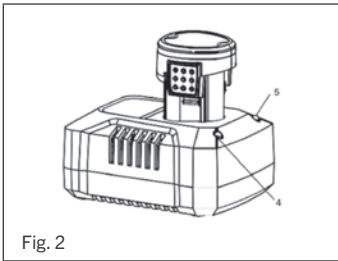

Fig. 2
When the battery charger is plugged into a “live” receptacle, the battery charger will begin charging the battery. The red LED (4) and the green LED (5) on the top of the charger will indicate the charging status (Fig. 2).